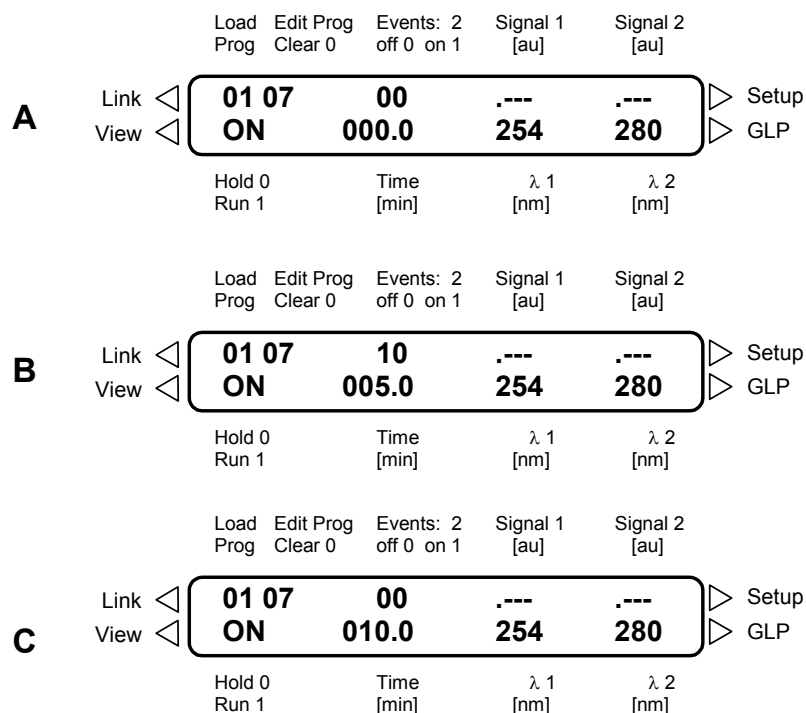

Fig. 17 Programming steps for example program no. 7
5. At the time step 0 min the Events-field rests unchanged. At time 5 min program Events 1 0, see Fig. 17 on page 20 and prepare deactivating of the event at 10 min by entering 0 0 again.